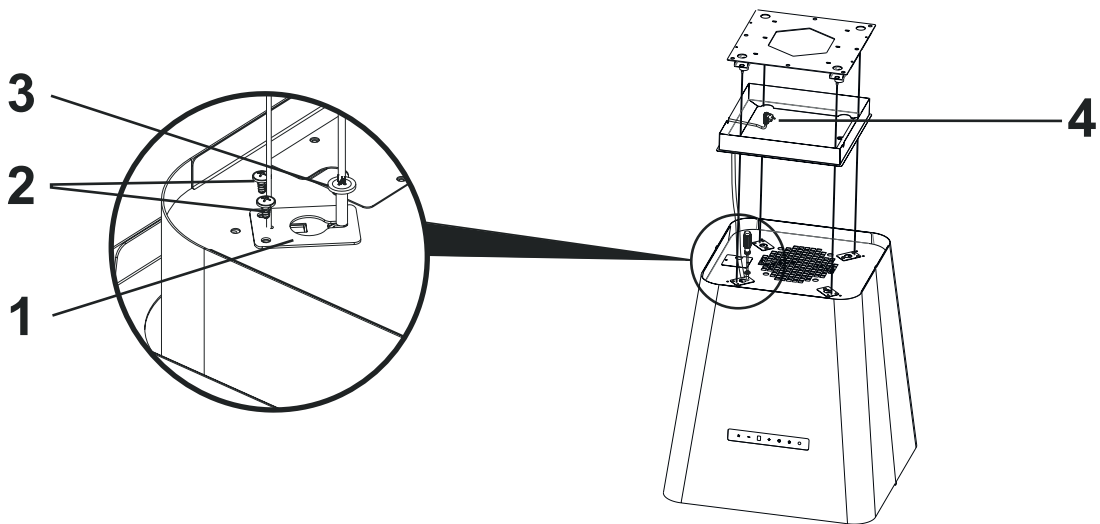

Fig. 13
1. ➔ Mount 4 ceiling hanger locking mechanism (1) on the body with 3.5 x 9.5 screws (2) and M5 x 15 (3) screws (Fig. 13
2. ➔ Let the feeder cable (4) through the ceiling hanger plate feeder cable through area (Fig. 13/5) and make the electrical connections. Close the ceiling hanger plate cover.